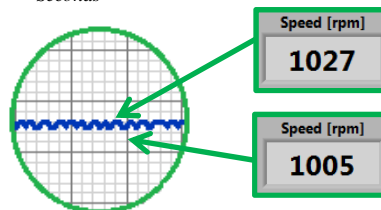

Fig. 34 – Measure of the oscillations
- 5) Measure the oscillation N_{osc} occurring in $X_{Seconds}$ as shown in fig 34 (X can be chosen at